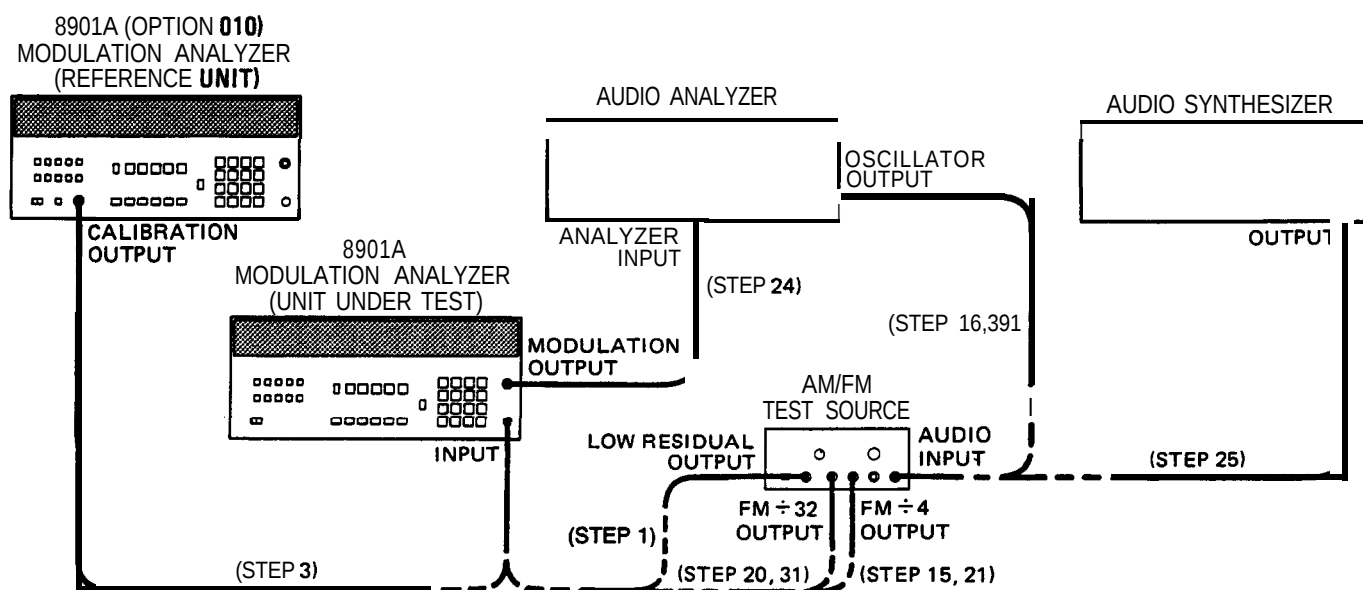

Figure 4-4. FM Performance Test Setup (Using a Second HP 8901A Equipped with Option 010)
1. On the AM/FM test source, set the test mode to residual FM. Connect its low-residual (560 MHz) output to the Modulation Analyzer's INPUT. (See figure 4-4.)
3. Connect the CALIBRATION OUTPUT of the HP 8901A with **Option** 010 (Reference Unit) to the INPUT of the Modulation Analyzer under test. (See figure 4-4.)
15. On the AM/FM test source, set the test mode to FM. Connect its FM+4 output to the Modulation Analyzer's INPUT. (See figure 4-4.)
16. Set the audio analyzer's source to 10 **kHz** at 0.5 V. Connect its output to the audio input of the AM/FM test source. (See figure 4-4.)
20. Connect the **FM+32** output of the AM/FM test source to the Modulation Analyzer's INPUT without disturbing the AM/FM test source's controls. (See figure 4-4.) Multiply the displayed ratio on the Modulation Analyzer by the result of step 11 divided by the result of step 6. (For example, if the display reads 12.52% REL and the result of step 11 is 33.400 **kHz** and the result of step 6 is 33.333 **kHz**, the desired result is $(12.52 \times 33.4) \div 33.333 = 12.55$.) The result should be between 12.35 and 12.65% REL.
21. Connect the **FM+4** output of the AM/FM test source to the Modulation Analyzer's INPUT. (See figure 4-4.)
24. Connect the audio **analyzer's** input to the MODULATION OUTPUT of the Modulation Analyzer under test. (See figure 4-4.) Set the audio analyzer to measure the distortion on the 100 **kHz** signal at the MODULATION OUTPUT (**all** audio analyzer filters should be off). The distortion should be 0.1% or less (-60 **dB** or less).
25. Set the audio synthesizer to 10 **kHz** at **+15 dBm**. Connect its output to the audio input of the AM/FM test source. (See figure 4-4.) Fine adjust the level for a Modulation Analyzer display of 100 **kHz** times the result of step 11 divided by the result of step 6. (For example, if the result of step 11 is 33.400 **kHz**, and the result of step 6 is 33.333 **kHz**, set the level for a display of $(100 \text{ kHz} \times 33.400) \div 33.333 = 100.2 \text{ kHz}$.))
31. Connect the **FM÷32** output of the AM/FM test source to the Modulation Analyzer's INPUT. (See figure 4-4.)
39. Set the audio analyzer's source to 10 **kHz** at 2 V. Connect its output to the audio input of the AM/FM test source. (See figure 4-4.) Fine adjust the oscillator level for a Modulation Analyzer display of 10 **kHz** peak deviation.